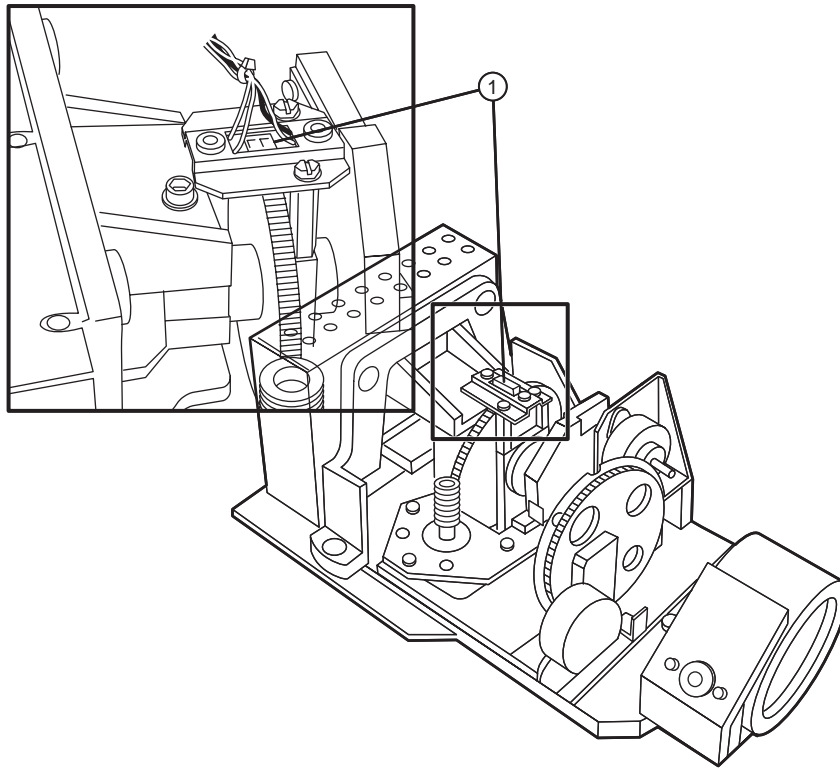

Figure 4-35 Polarizer sensor location.
4. Remove the two (2) hex screws securing the polarizer sensor to the bracket. Refer to Figure 4-35.